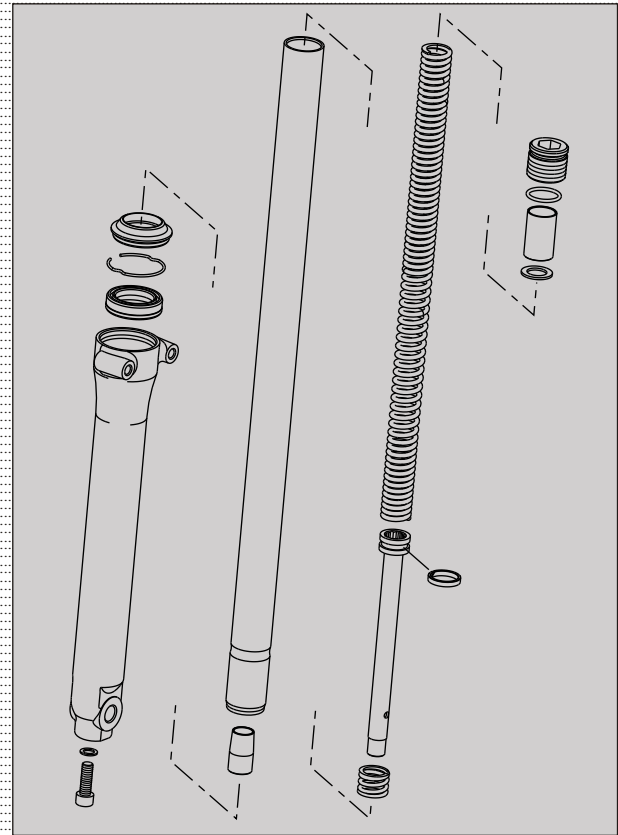

Fig. 6.56
- Refer leg assembly front fork exploded view (Fig. 6.56) for assembly details.